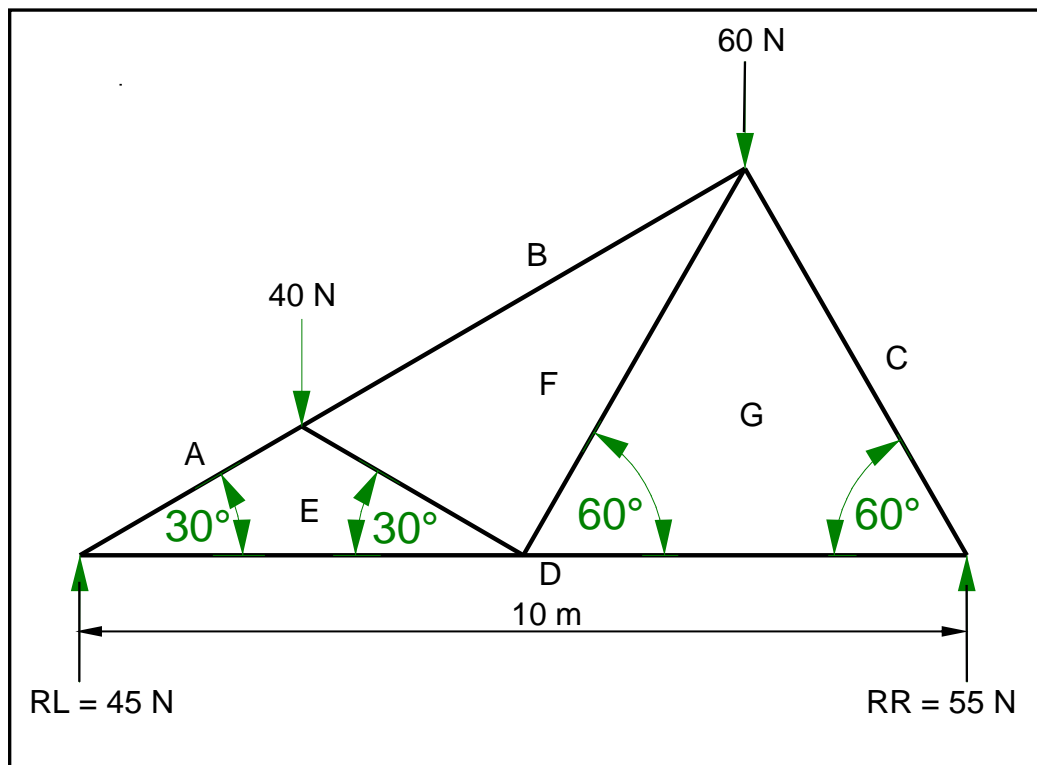

FIGURE 5.2
- 5.2 FIGURE 5.2 below shows the space diagram of a truss with two point loads and a span of 10 metres.